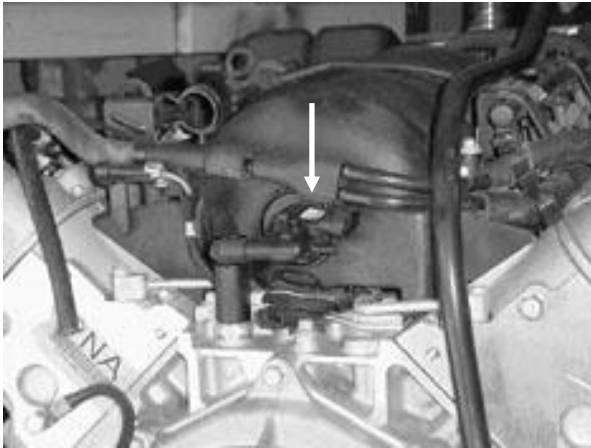

Figure 6.4 MAP Sensor
- 6.3.3 Using **Figure 6.4** and **Table 6.1** connect the wiring as directed.